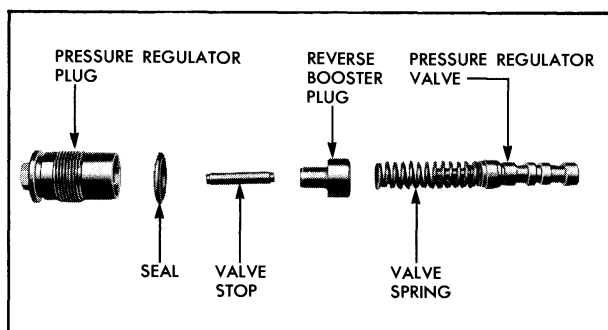

Fig. 7D-144 Pressure Regulator Parts—Exploded
1. Inspect pressure regulator valve (Fig. 7D-144) for nicks or scores and free movement in pump body.